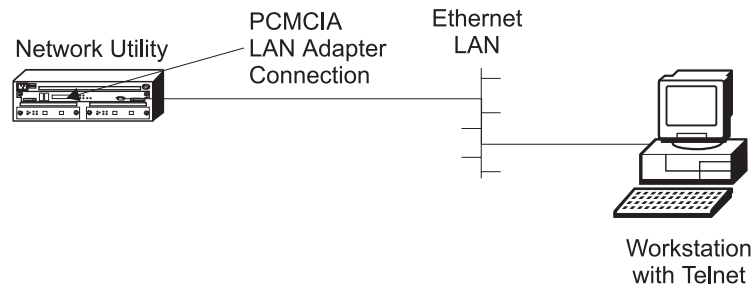

Figure 2-3. LAN Connection through the PCMCIA LAN Adapter
- Local cable from a Network Utility PCMCIA LAN adapter (an IBM EtherJet PC card) to a workstation using a local Ethernet hub. Figure 2-3 on page 2-3 shows a version of this configuration.